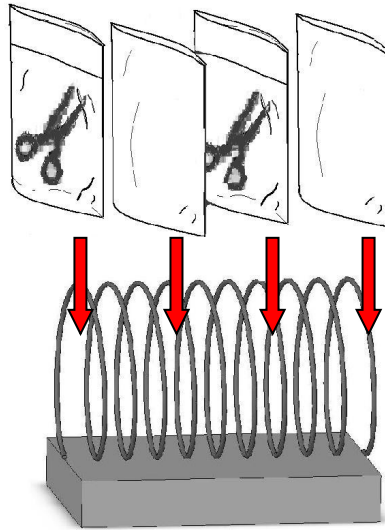

Figure 22
**Warning:** We suggest using Spring Holder for items with sterilizing pouches to assure sterilization result. Follow Figure 22 or 23 to place each pouch separately. Spring holder is available as an optional accessory.